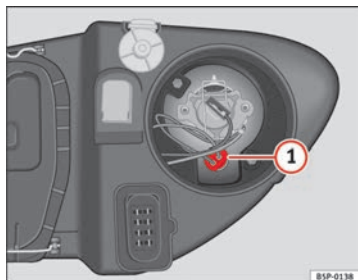

Fig. 195 Side light
- Extract the bulb holder ⇒ Fig. 195 **1** outwards.